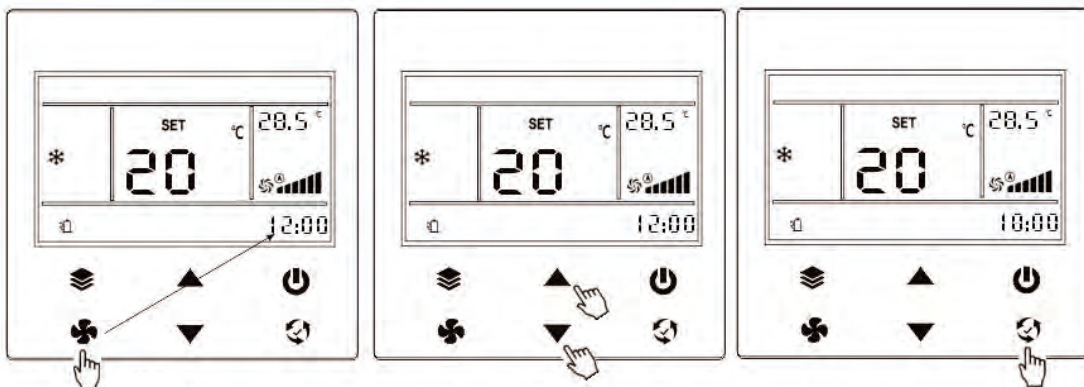

Figure 6. Setting time operation steps
In the power-on state, every time you press the "Mode" button , the operation mode will switch as shown in Figure 6 (automatic-cooling-dehumidification-air supply-heating):
2. 2. Longpress or short press  or  to scroll the time to the current time point, such as 18:00 in Figure 6;